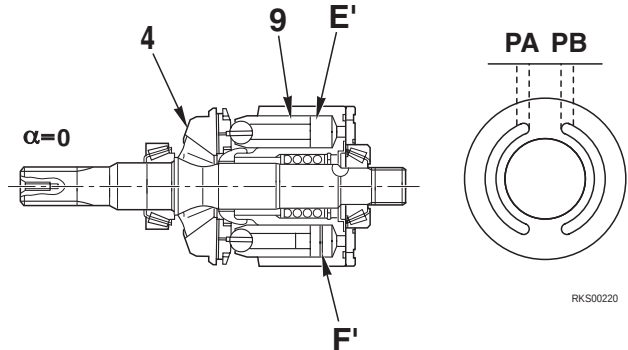

Fig. 2
- If center line X of rocker cam (4) is in line with the axial direction of cylinder block (9) (swash plate angle = 0), the difference between volumes E' and F' inside cylinder block (9) becomes 0, so the pump does not carry out any suction or discharge of oil (Fig. 2).
- Center line X of rocker cam (4) maintains swash plate angle α in relation to the axial direction of cylinder block (9), and flat surface A moves as a cam in relation to shoe (7). In this way, piston (8) slides on the inside of cylinder block (9), so a difference between volumes E'' and F'' is created inside cylinder block (9).